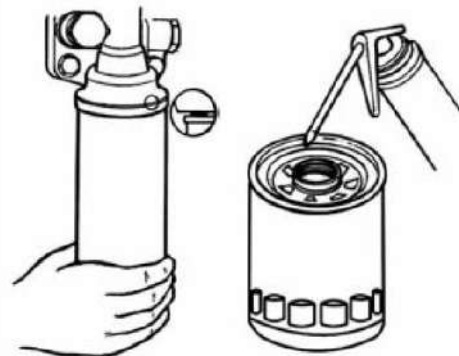

Fig 5-36 Below Type Oil Pump Installation
4.4 According to purpose and installation position, choose single stage oil filter with paper element or spin -on oil filter. When installing filter element, pay attention to gasket. Coat some oil on sealing ring, tighten bolts well (see Fig 5-36).